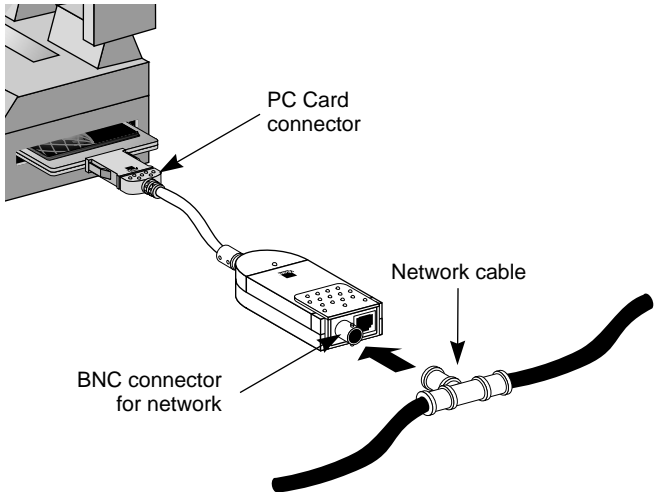

Figure 2-6 Attaching the BNC Connector to the Network
- 3 To use the BNC connector on the 3C589C-COMBO cable, attach the BNC connector to the network cable, as shown in Figure 2-6.